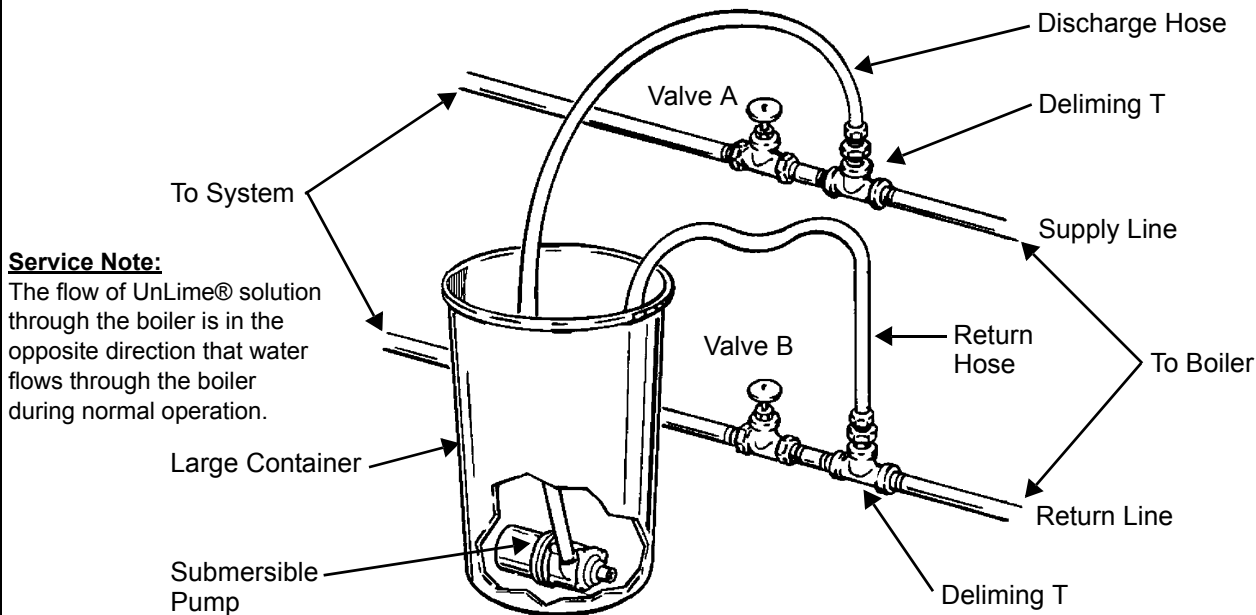

Figure 1
Boilers must be equipped with supply and return water isolation valves and deliming T fittings installed in the supply and return water lines as shown in Figure 1 on page 8. When not in use the branch of the T fittings are plugged. If these valves and fittings are not installed they will need to be installed before the forced circulation deliming procedure outlined below can be performed. Reference Figure 1 on page 8 for the following instructions.
- 3 Close the "A" supply and "B" return water shut off valves to the boiler(s). See Figure 1 on page 8
- 6 Figure 1 shows a typical piping arrangement with deliming T fittings, that permits gravity or forced circulation deliming. Make connections using a submersible chemical feed pump, large container, fittings and hoses (see Table 4) as shown in Figure 1.
- 13 Slowly open the inlet valve (valve B Figure 1 on page 8) while carefully purging all air out of the boiler through its pressure relief valve or other appropriate fitting or opening.
- 15 Open the outlet valve (valve A in Figure 1 on page 8).
If the Forced Circulation Deliming (Figure 1) procedure has been performed and the symptoms of pounding noise and/or burner cycling off of the high limit control continue deliming of the individual water circuits in the boiler's coil and heat exchanger may correct the problem.